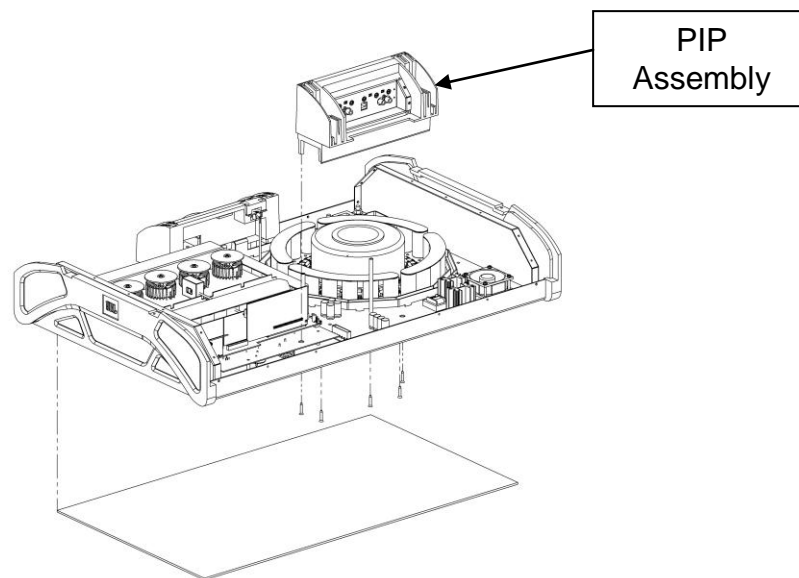

Figure 4.7 Input PIP and Input Housing Assembly Removal.
3. Remove PIP Assembly (see Figure 4.7).